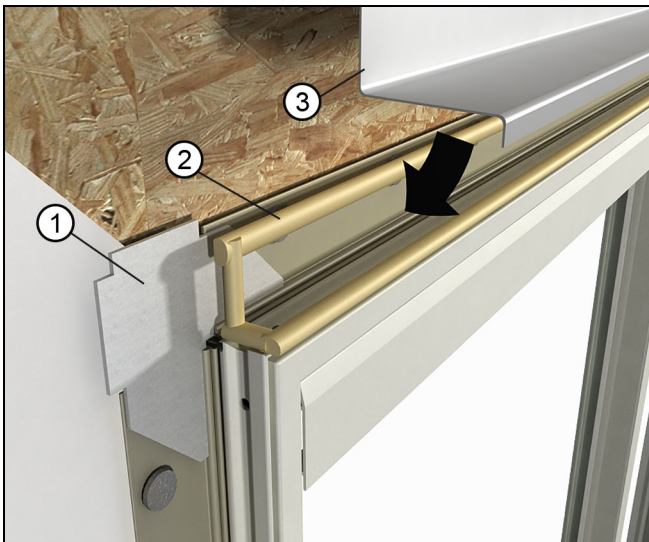

Figure 37
2. Required on wood units/optional on clad units: Install a rigid head flash at the head jamb. Be sure to apply a bead of sealant along the back sides of both vertical and horizontal surfaces of the cap that come in contact with the door, door casing, and/or sheathing. When an integral vinyl drip cap is installed, cut the vinyl drip off before using a rigid head flash. See Figure 37.